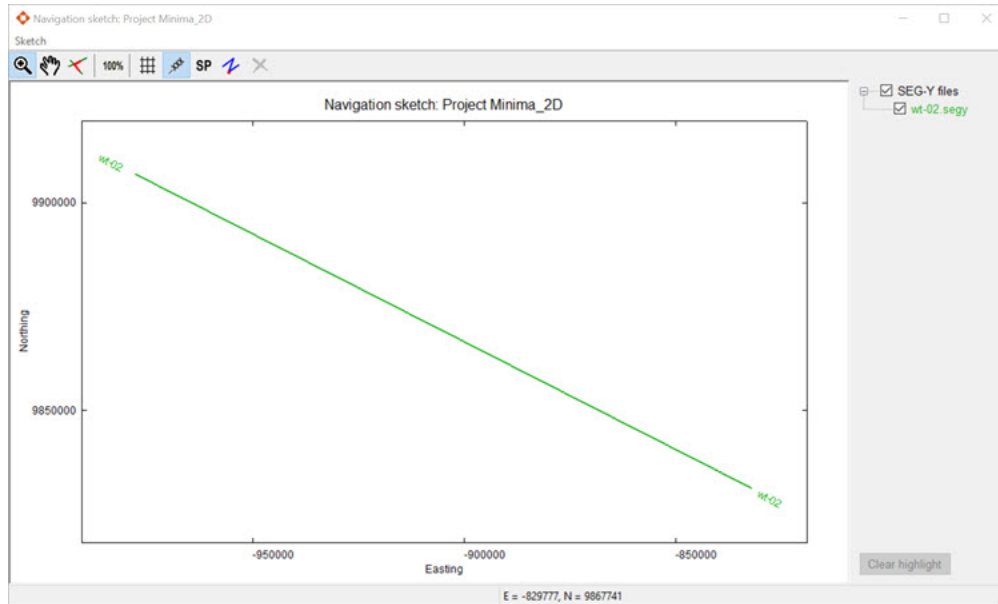

Figure 4-13 Sketch map of a single line.
1. Right-click on the required SEGY file listed in the left-hand panel. Select **Sketch map** from the popup menu options. A floating display will showing a sketch map of the selected line (Figure 4-13).